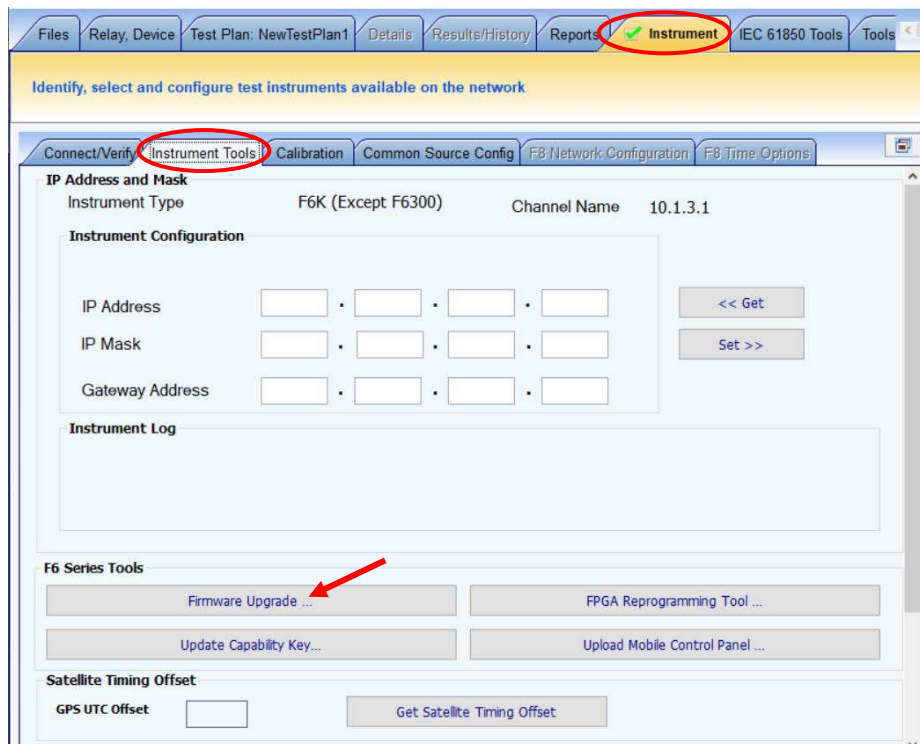

Figure 9. Location of "Firmware Upgrade" button
25) Choose Firmware Upgrade (in the F6 Tools section, shown in Figure 9)